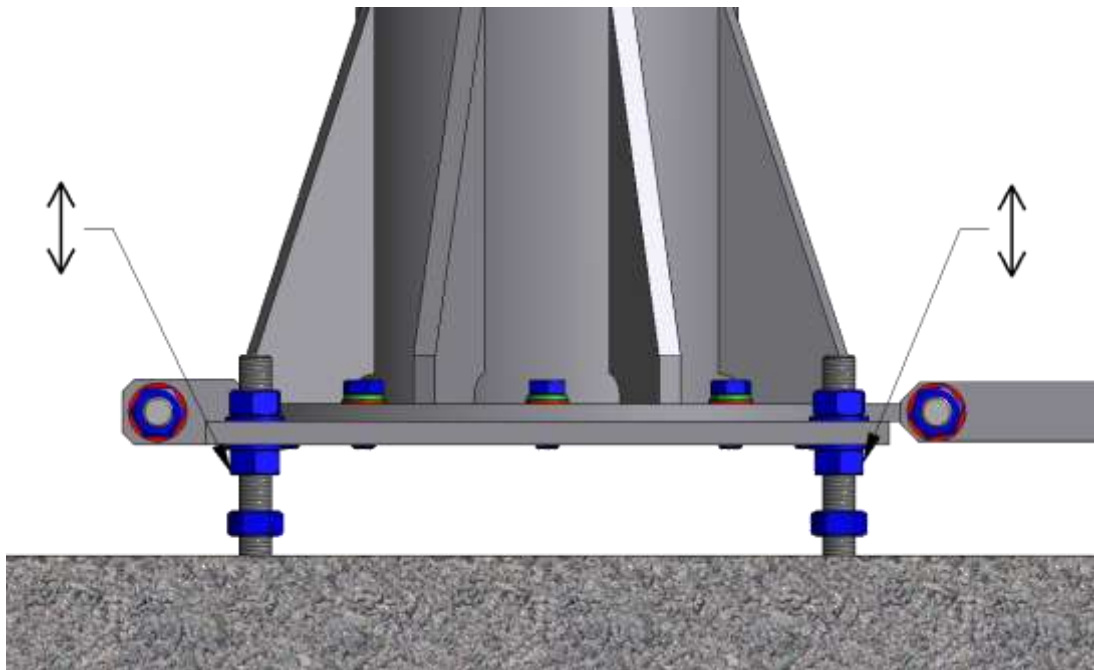

Figure 14 – Levelling the tower
3. Adjust the tower vertical by turning the M27 nuts supporting the base plate up and down as necessary (see Figure 14). Lower the bottom nuts away from the upper nuts before levelling out the tower. **! IMPORTANT:** Do the adjustment incrementally, 1 nut turn at the time. Never remove the upper M27 nuts from the threaded bars, this could result in the tower falling down.
6. Adjust the tower vertical by turning the M27 nuts supporting the base plate up and down as necessary (see Figure 14). Lower the bottom nuts away from the upper nuts before levelling out the tower. ! **IMPORTANT:** Do the adjustment incrementally, 1 nut turn at the time. Never remove the upper M27 from the threaded bars, this could result in the tower falling down.